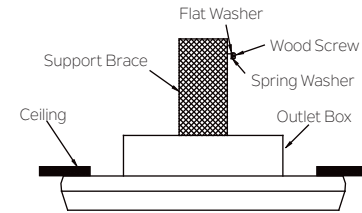

Fig. 6
**Step 1.** Drive a wood screw and washers into the side of the brace that holds the outlet box. Leave 3mm (1/8") of space between the support brace and the washer. (Fig. 6)